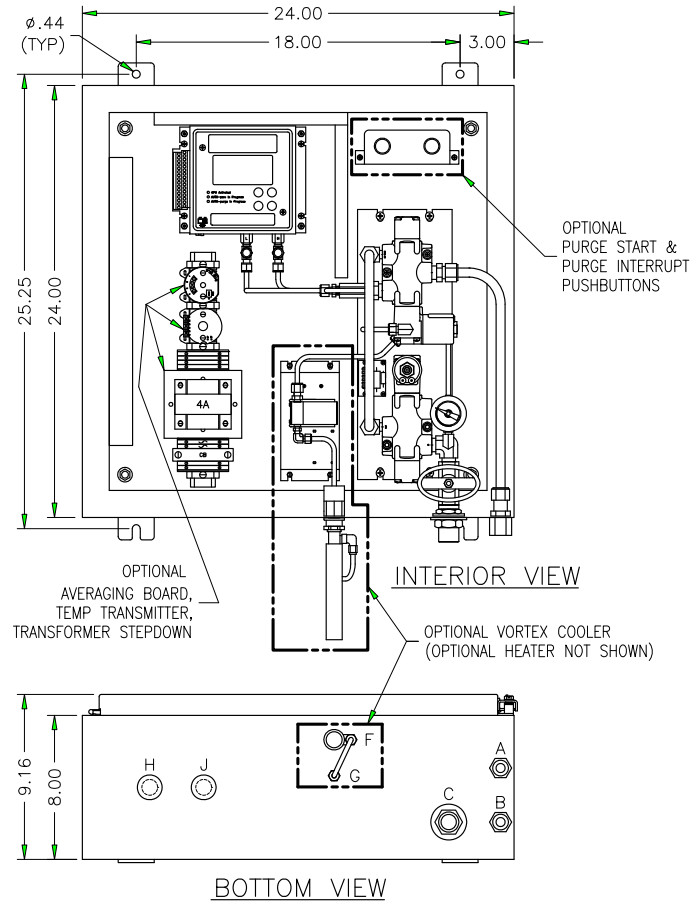

Figure 3.2
A. STATIC PRESSURE (LO) SIGNAL FROM FLOW ELEMENT	1/2" (F)NPT
B. TOTAL PRESSURE (HI) SIGNAL FROM FLOW ELEMENT	1/2" (F)NPT
C. SUPPLY AIR 80 – 125 PSIG	1/2" (F)NPT
- Figure 3.2 depicts the various bulkhead connections located on the bottom of the AUTO-purge III Panel.